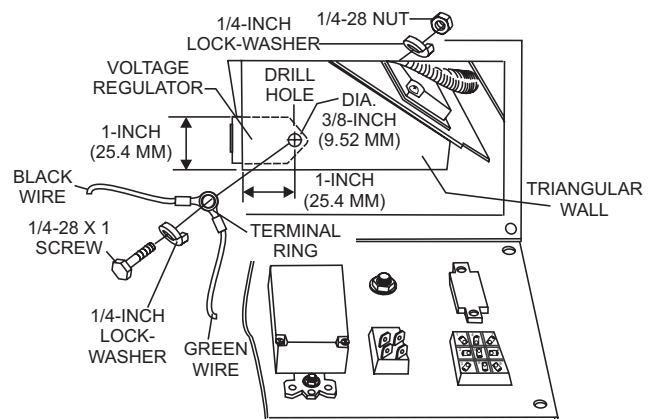

Figure 9. Voltage Regulator Mounting
- Using a 1/4-inch drill, drill a hole into the triangular wall behind the control panel as shown in Figure 9.
- Place regulator behind wall, insert 1/4-28 x 1 screw with green and black wires through mounting hole to hold regulator in place. Secure regulator with lock washers (2), and nut. Tighten securely.